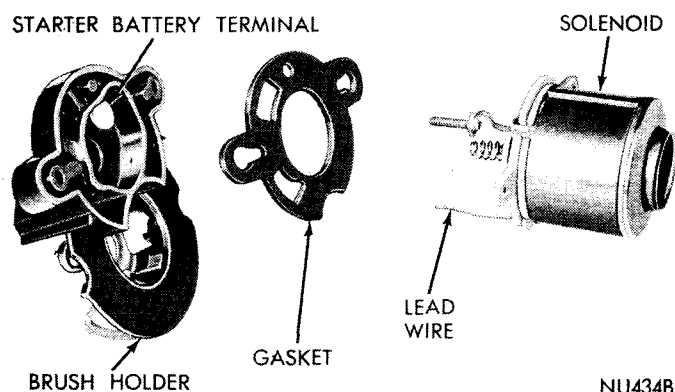

Fig. 27—Assembling Solenoid to Brush Holder Plate
- (11) Position seal on brush holder plate.
- (12) Enter solenoid lead wire through hole in brush holder (Fig. 27) and install solenoid stud, insulating washer, flat washer and nut.
- (13) Wrap solenoid lead wire tightly around brush